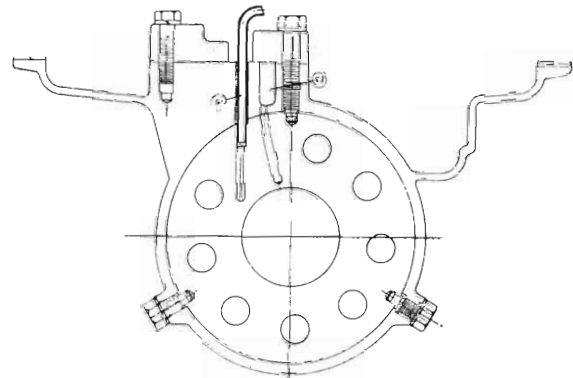

Fig. 47 — Intermediate support location diagram
(4) Position the intermediate support to centrally align the oil feed tube with marked drilling (adjacent to the centre bolt hole); insert the feed tube to hold this position, whilst installing the 2 centre support screws and special lock washers (rolled side to screwhead). Refer Fig. 47.